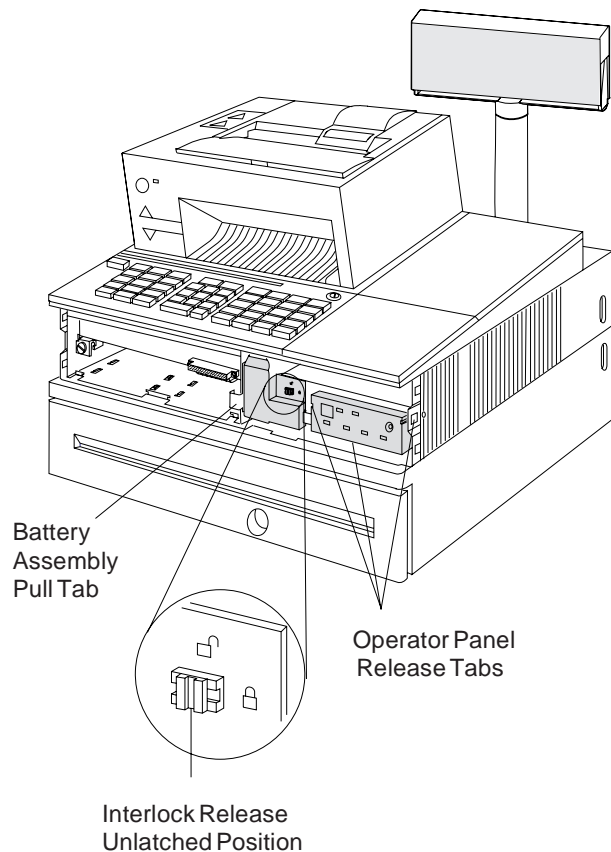

Figure 1-6. Operator Panel Remove and Replace
- 3 There are three tabs holding the operator panel in place. See Figure 1-6. Unlatch the left side of the operator panel by gently prying outward on the tab with a small screwdriver while gently pulling forward on the left side of the panel.